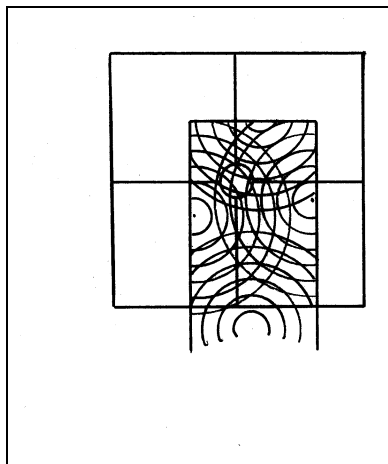

Figure 15a
- 12 Adjust the target position so that the small circle within the measurement range is totally within the dark area of the target. See *Figure 15a*. Adjust the left-most lock-on control with a small screwdriver until the front panel meter reads – 20%.